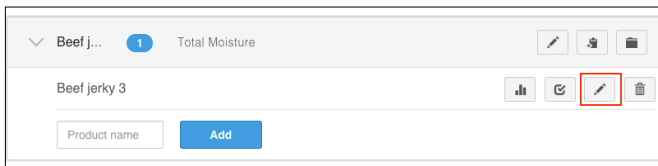

Figure 18 Product group
9. Select the Product group containing the product to be offset (Figure 18).
10. Click the edit icon next to the product to be offset (Figure 18).